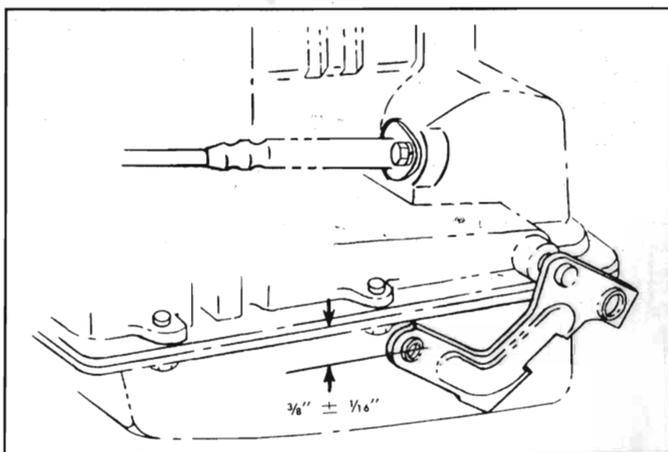

Fig. 6E-7—Cable Installation Check Diagram
counterclockwise direction and check that the hole in the notched arm of the TV lever is **below** the transmission oil pan rail (fig. 6E-7). If hole is above pan rail, cable installation is faulty and must be re-checked.
10. Install the cable rear grommet (fig. 6E-5) in the grommet plate, then install the grommet plate in the rear of the tunnel.